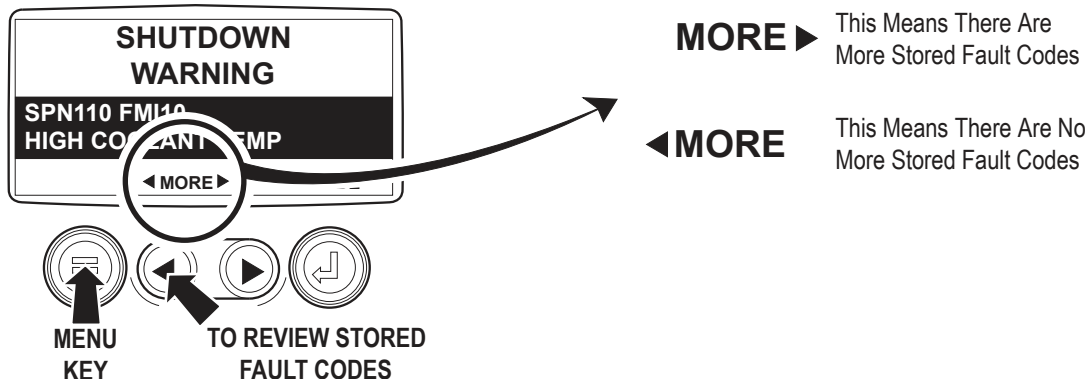

Figure 13 – Stored Fault Codes
4. Once the stored fault codes have been retrieved, the initial code will be displayed along with a text description. See Figure 13.